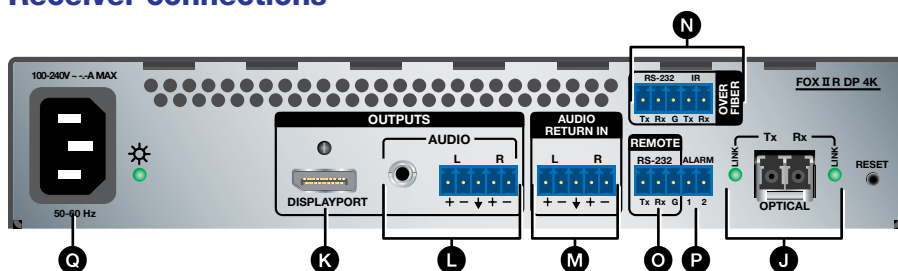

Figure 3. FOX II R DP 4K Transmitter Rear Panel Connectors
- Connect the opposite end of this fiber optic cable to the Rx LC connector on the FOX II DisplayPort receiver (see figure 3, 1 on the next page) or to any other compatible Extron FOX II device.
Connect the opposite end of this fiber optic cable to the Tx LC connector on a FOX II R DP 4K receiver (see figure 3, 1 on the next page) or to any other compatible Extron FOX II device.
- J** Optical ports and LEDs (see figure 3) —
- K DisplayPort output port** (see figure 3 on the previous page) — Connect a video display to this DisplayPort connector.